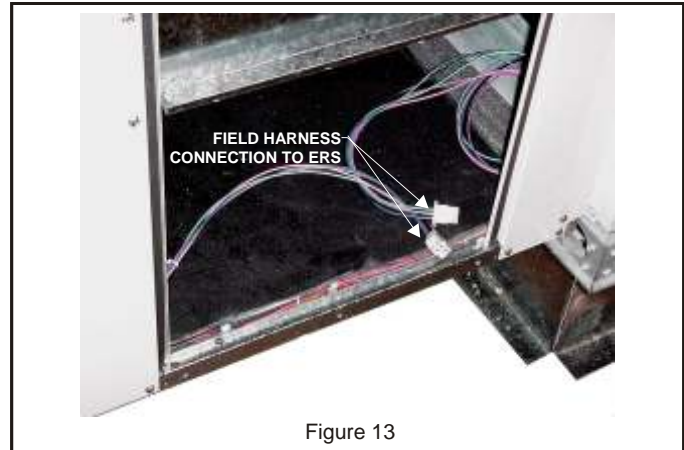
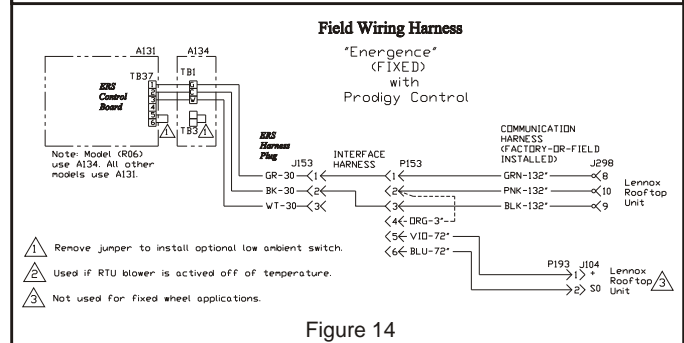

Figure 13
Figure 14
10. Remove the right front (rooftop unit side) access panel and locate the field wiring harness that was previously routed into the return air of the rooftop unit. Plug the field wiring harness into the connector located at the bottom of the access door inside the ERS. **See Figure 13 and Figure 14.**